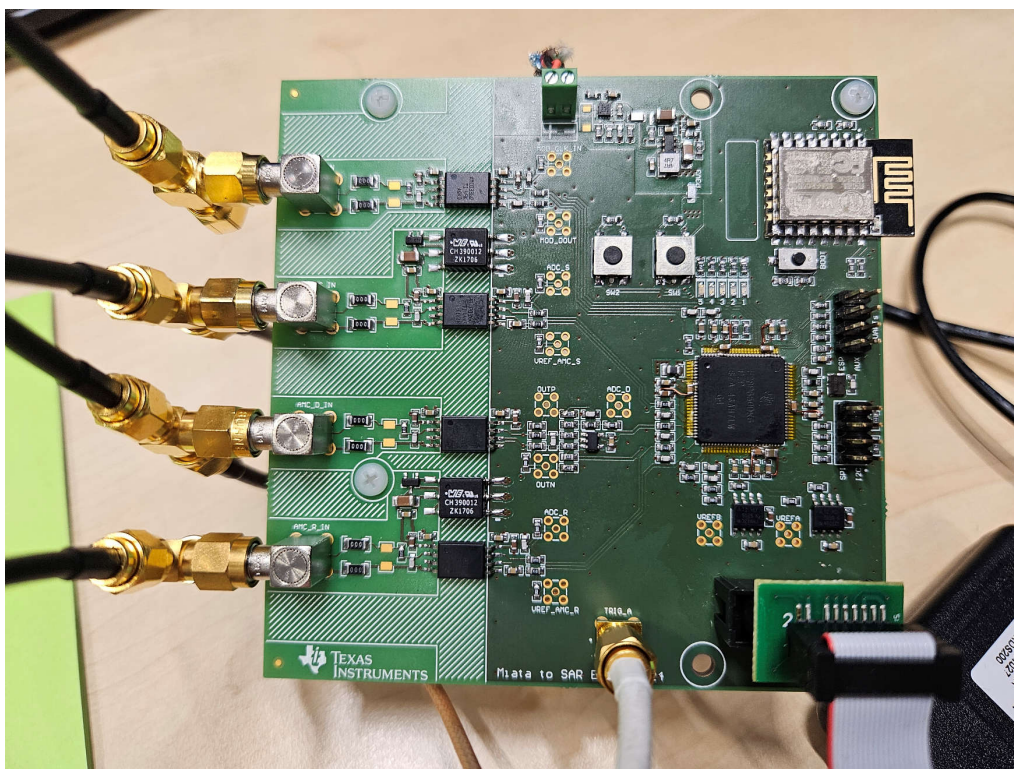
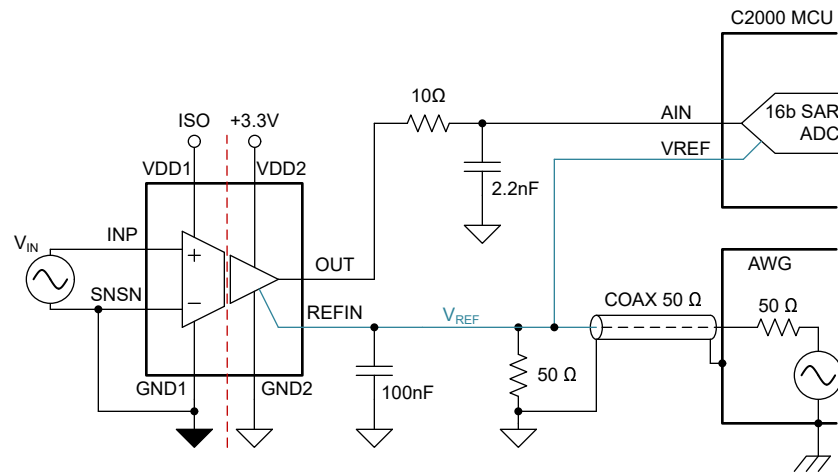

Figure 2-1. Experimental Test Setup
Figure 2-2. Test Configuration With AMC0330R and SAR ADC Used for Measurements
Figure 2-1 and Figure 2-2 show a test configuration used for measurements. An Arbitrary waveform generator (AWG) sources the reference voltage to allow for dynamically changing the reference voltage V_{REF} .
- The VREF is shared with 16-bit SAR ADC in TMS320F28P650 MCU and AMC0330R device as shown in Figure 2-2